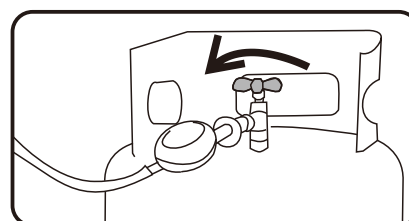

FIG3
3. Open the angle valve of the gas bottle counterclockwise (as shown in Figure 3)